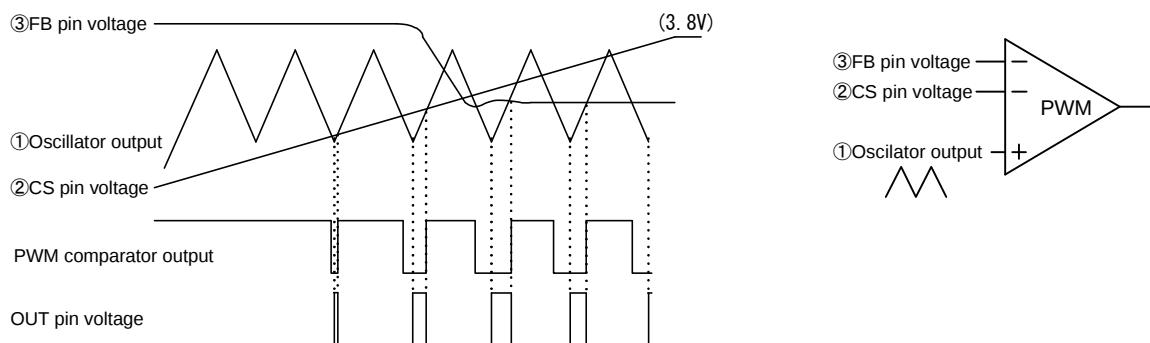

Fig.6
(2) PWM comparator
Fig.6 shows the PWM comparator timing chart. The PWM comparator has three inputs. Oscillator output ① is compared with CS pin voltage ② and FB pin voltage ③. The lower of two inputs ② and ③ has priority and compared with oscillator output ①. While the voltage is lower than the oscillator output, the PWM comparator output is high. While the voltage is higher than the oscillator output, the PWM comparator output is low.
When the power is turned on, the constant current source (10 μ A) begins to charge capacitor Ccs. Because of that, the CS terminal voltage gradually increases as shown in **Fig.6**. The CS pin voltage is connected to the PWM comparator, which is characterized to make output based on the lowest of input voltages. The device enters soft-start mode while the CS pin voltage is between 1.0V and 3.0V. During normal operation, the CS pin voltage is clamped at 3.8V by internal zener diode. If the output voltage drops due to an overload and the VF pin voltage become 3V or less, the clamp voltage 3.8V is canceled and the CS pin voltage rises. The CS pin voltage is oscillate between 3.8V and 5.7V, and determined the time ratio of OLP hiccup.